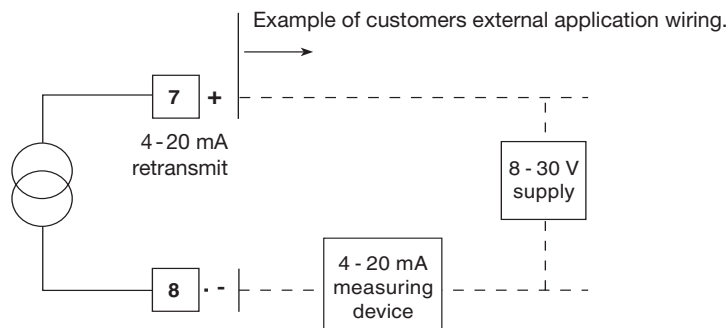

Fig. 27 4 - 20 mA retransmit
7.2 3-port valves (with travel setting (TRAVL) 0 - 100%, refer to Figures 27 and 28)